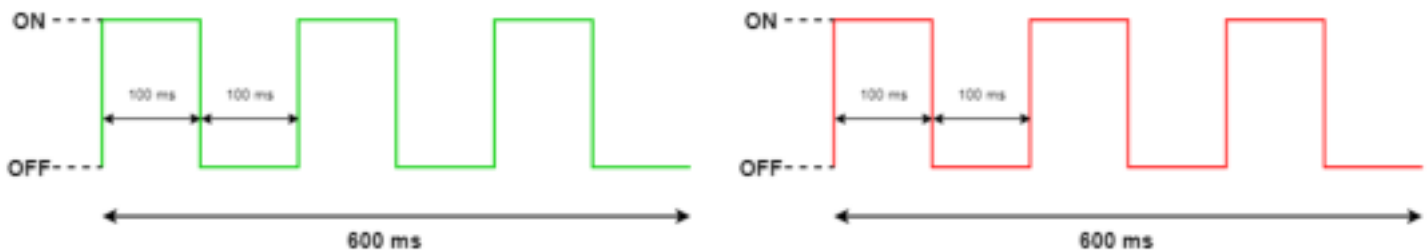

Figure 3-1: The GREEN POST Pass (left) and RED POST Failure (right) LED Patterns
- a. If the POST passes, **GREEN** is toggled ON and OFF 3 times: every 100 ms for 0.6 s, as shown in Figure 3-1. In this case, the LED pattern proceeds to step 4.3
- b. If the POST fails, **RED** is toggled ON and OFF 3 times: every 100 ms for 0.6 s, as shown in Figure 3-1. In this case, the device restarts and the LED pattern begins again at step 1 after approximately 4 s.